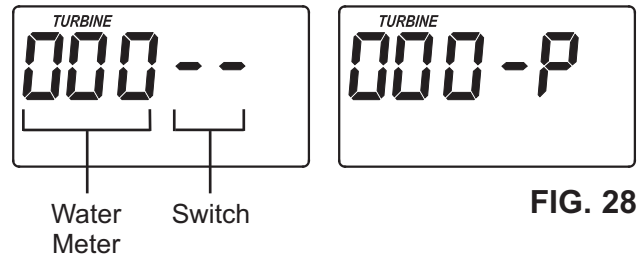

FIG. 28
1. Press and hold for 3 seconds the SELECT button, until one of the screens shown in Figure 28 is displayed. If the valve is in service, fill, brining, backwash or fast rinse position (observe markings on the valve cam), the display should show "000 - -", meaning the position switch is open. When the valve is moving, the display should show "000 - P", meaning that the position switch is closed.
2. The first 3 digits of the display in Figure 28 should count upward whenever water is flowing through the system.